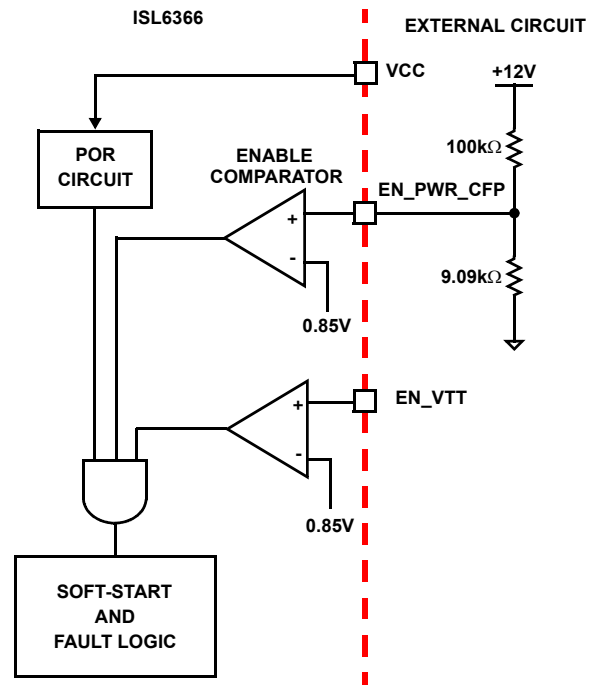

FIGURE 15. POWER SEQUENCING USING THRESHOLD-SENSITIVE ENABLE (EN) FUNCTION
2. The ISL6366 features an enable input (EN_PWR) for power sequencing between the controller bias voltage and another voltage rail. The enable comparator holds the ISL6366 in shutdown until the voltage at EN_PWR rises above 0.85V. The enable comparator has about 100mV of hysteresis to prevent bounce. It is important that the drivers reach their POR level before the ISL6366 becomes enabled. The schematic in Figure 15 demonstrates sequencing the ISL6366 with the ISL66xx family of Intersil MOSFET drivers.